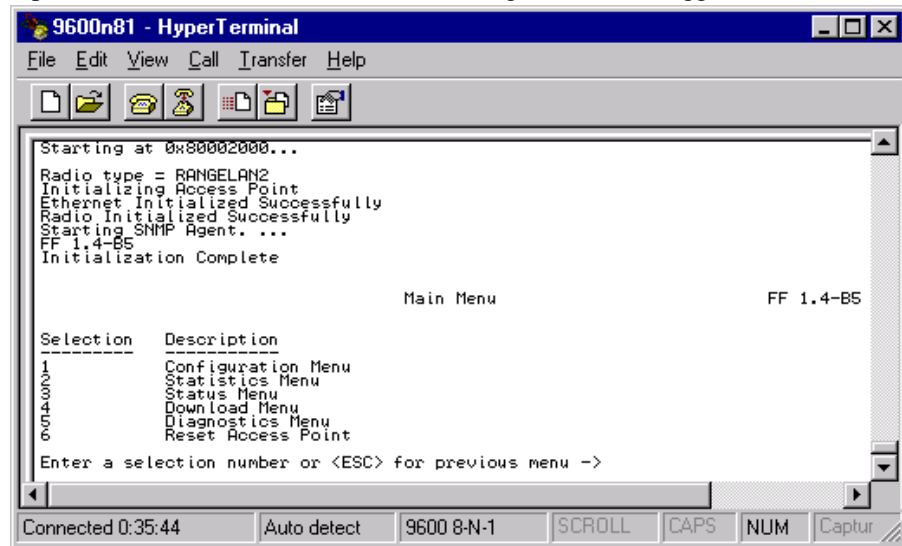

Figure 5-58 Access Point Main Menu
Step 5. Press **Enter** and the **Main Menu** of Figure 5-58 will appear.